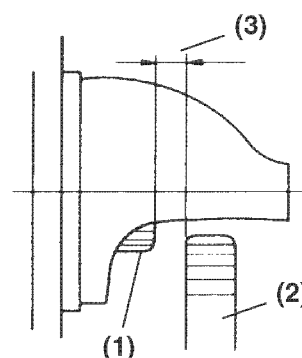

Figure 8-4
3. Check the distance between the flywheel ring gear (**Figure 8-4, (2)**) and starter motor pinion (**Figure 8-4, (1)**) in the rest position (mesh clearance) (**Figure 8-4, (3)**). The clearance must be 0.12 in. - 0.20 in. (3.0 mm - 5.0 mm).